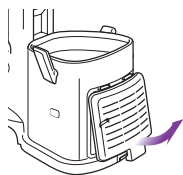

Fig. 21
- 1 Remove the filter cover from the front of the vacuum by pulling up on the tab and pulling the cover away from the vacuum. (Fig. 21)